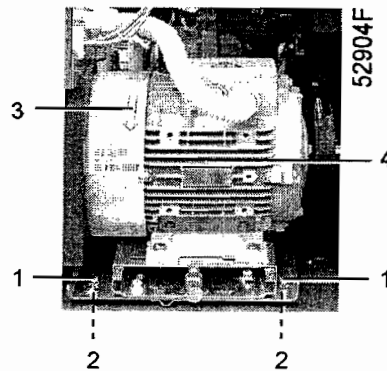

Fig. 3.2 Transport spacers GX5-11
7. Switch on the voltage. Start the compressor and stop it immediately. **Check the rotation direction of motor (4-Figs. 3.2 and 3.4) while the motor is coasting to a stop.** The correct rotation direction is indicated by arrow (3). If the rotation direction is wrong, switch off the voltage by opening the isolating switch and reverse two incoming electric lines.